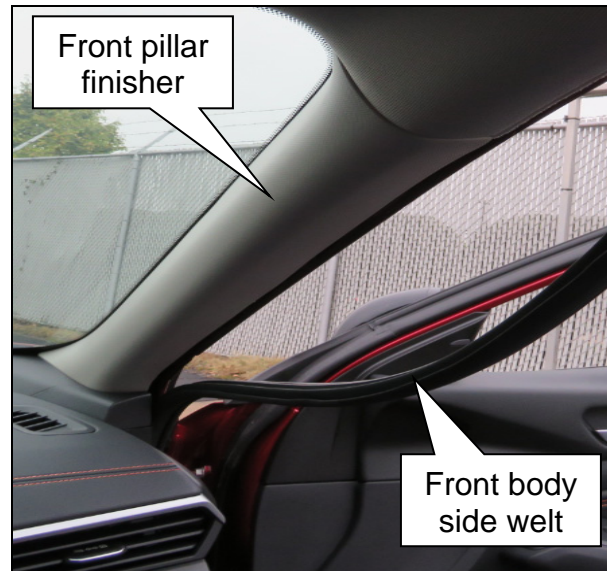

Figure 3
2. Partially remove both front body side welts (Figure 3 shows the passenger side, the driver side is a mirror image).